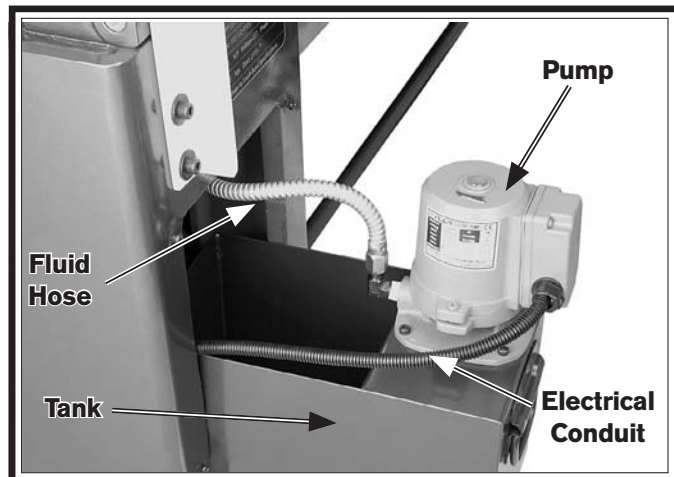

Figure 113. Coolant tank and pump.
2. Remove the vented access cover from the rear of the right stand, then slide the tank out, as shown in **Figure 113**.
6. To enable the remaining fluid to be poured out in the next step, disconnect the fluid hose from the pump (see **Figure 113**).